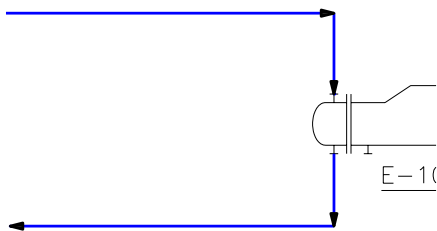

Figure 2-42 The steam inlet line and condensate line of the heat exchanger
12. Similarly, create lines connecting the other two nozzles (steam inlet and outlet nozzles) of the heat exchanger, as shown in Figure 2-42. Next, assign tags **6"-CS150-P-2000** and **3"-CS150-SC-2002** to steam inlet line and condensate lines, respectively.